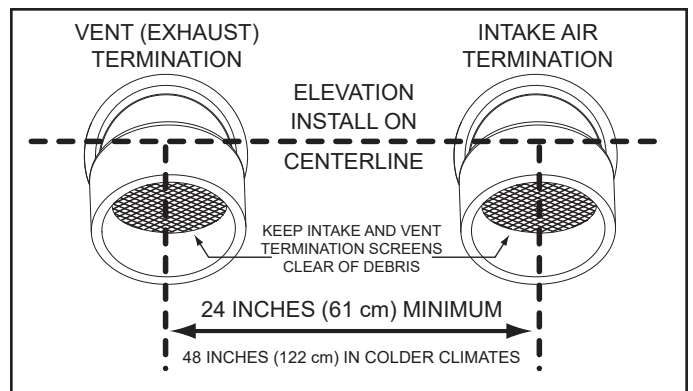

Figure 38. Sidewall Termination - Direct Vent
4. If installing both an intake-air and vent termination in a direct-vent configuration through a sidewall, there must be a minimum of 24 in (61 cm) separation, measured on a vertical center line, between the intake-air and vent terminations. See **Figure 38**.
5. If installing both intake-air and vent terminations in a Direct Vent configuration through a sidewall, the intake-air and vent terminations must be installed at the same elevation, measured on horizontal center line. See **Figure 38**.
However, the distance between the closest vent and intake-air terminations must be a minimum of 24 in (61 cm). In colder climates, this separation should be increased to at least 48 in (122 cm). See **Figure 38** (page 38).